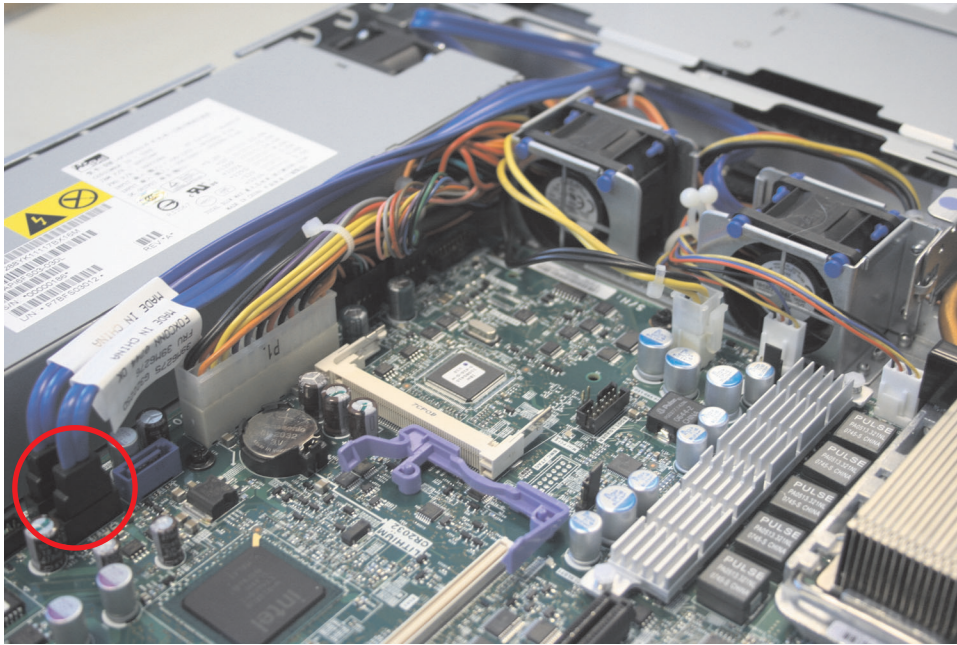

Figure 276. SAN Volume Controller 2145-8A4 SATA cable connectors
8. Disconnect and remove both SATA disk cables from sockets SATA 0 and SATA from the system board, as shown in Figure 276 on page 277.